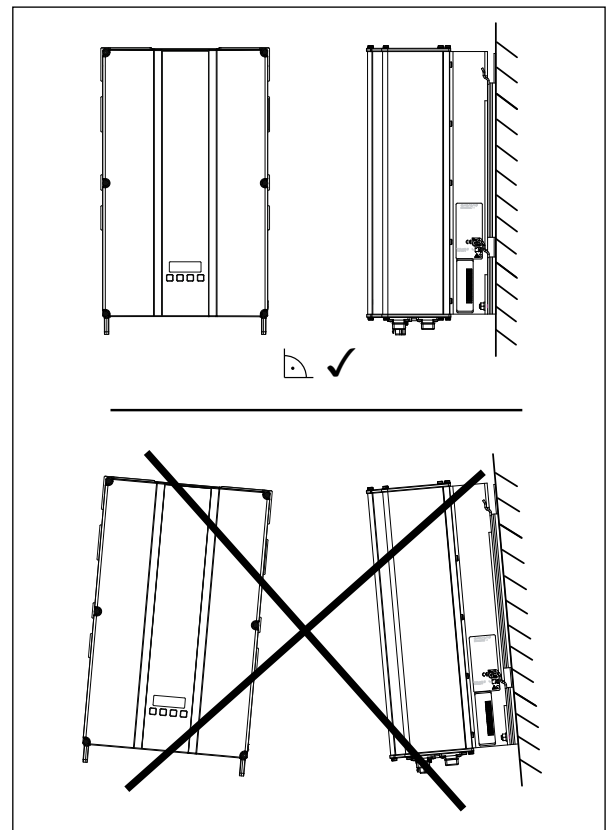

Fig. 7.1: Mounting Alignment
- ▶ Mount the solar inverter vertically, see Fig. 7.1, p. 24.